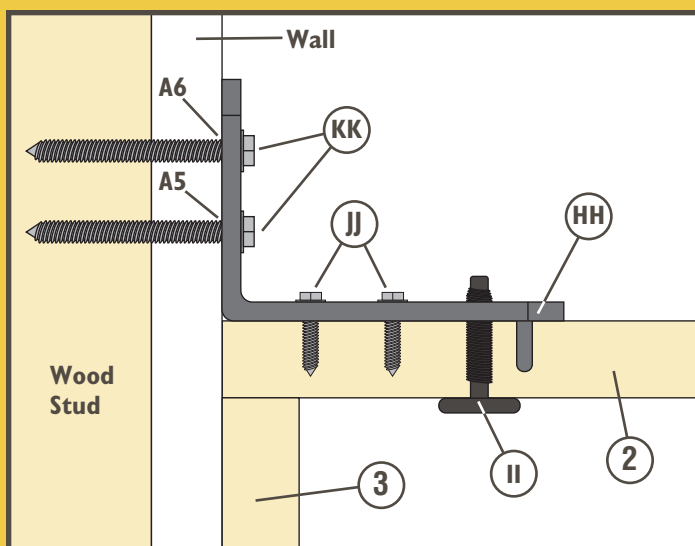

Fig. 7 - Side View of Lag Bolts and Screws Installed
7. At Drilling Locations A5 and A6 on the wall, drill 3/16" pilot holes for the 1/4" x 3" Washer Head Lag Bolts (KK). Remember, each Wall Bracket (HH) **MUST** attach to the wall with **TWO** lag bolts. **Fig. 7.**
8. Return the Wall Brackets (HH) onto the bed cabinet Top. Secure each bracket to the Top with two #12 x 3/4" Washer Head Screws (JJ). Secure each bracket to the wall by driving two 1/4" x 3" Washer Head Lag Bolts (KK). **Fig. 7.**
9. Working from inside the bed cabinet, insert a 1/4"-20 Allen Head Screw (II) into the hole on the underside of the cabinet Top at each bracket location and thread it into the tapped hole in the Wall Bracket (HH). Tighten the bolt with the #4 Allen Key (NN). **Fig. 7.**